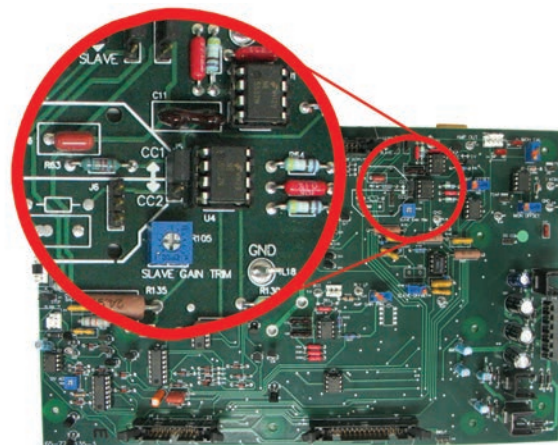

Figure 5.6 – Compensation Setting
When the 2105 amplifier is used in Controlled Current (CC) mode, the current control loop is tuned with one of two available RC networks: CC1 (R63 and C16) or CC2 (R82 and C25). Place **Jumper J5** in the **UP** position to select the **CC1** network (factory default). Place **Jumper J5** in the **DOWN** position to select the **CC2** network. See **Figure 5.6**. For more information on Controlled-Current operation, see the "**Applications**" section of this manual.